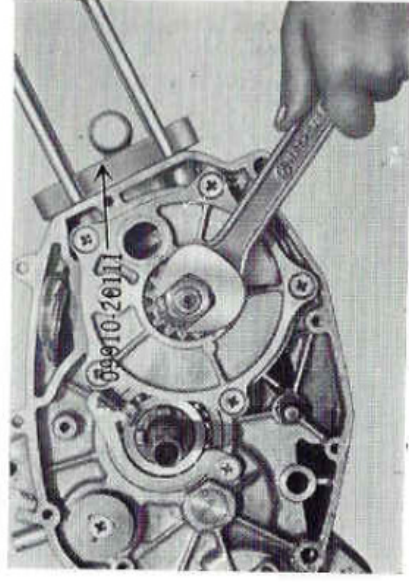

Fig. 8-2-23
23. After flattening the primary pinion lock washer with a chisel and hammer, place a piston holder (special tool 09910-20111) between the con. rod and the crankcase, and loosen the **primary pinion lock nut** with a 21 mm wrench. The primary pinion can be removed by hand. (Fig. 8-2-23)